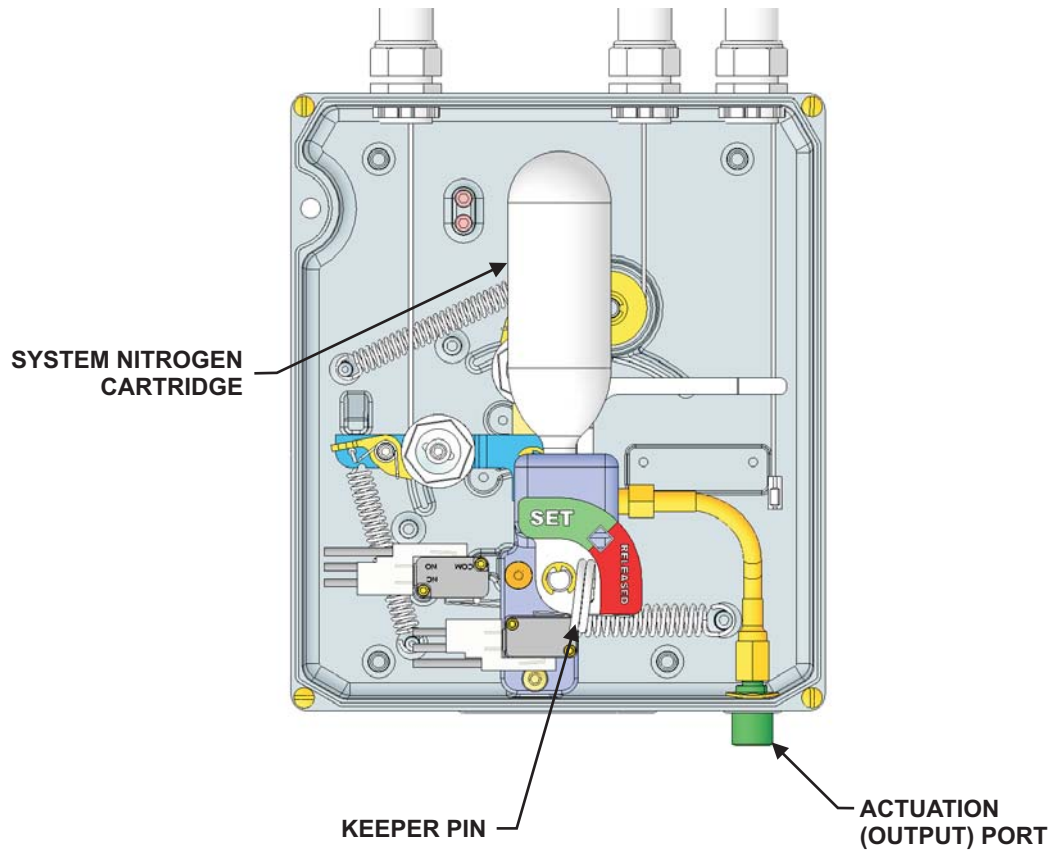

Figure 5-2. *XV* Control System, Internal View
3. Remove the cover from the *XV* Control System. Install Keeper Pin. See Figure 5-2 for Keeper Pin location.
4. Remove the System Nitrogen Cartridge (P/N 87-120043-001). Refer to Figure 5-2 for location in *XV* Control System.
6. Verify installation of the lockout screws for appropriate usage (refer to Figure 5-2).